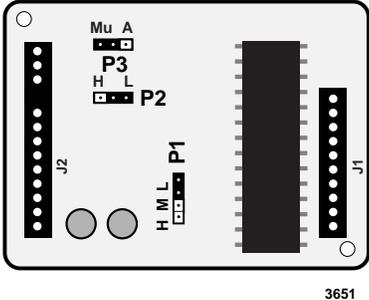

Figure 7-7 Remote Maintenance Modem (IMDU2) Installation
- Mate IMDU2 connector J1 with PIOU2 or PIOUS2 connector P1 and IMDU2 J2 with P2 and P3 (see Figure 7-7).